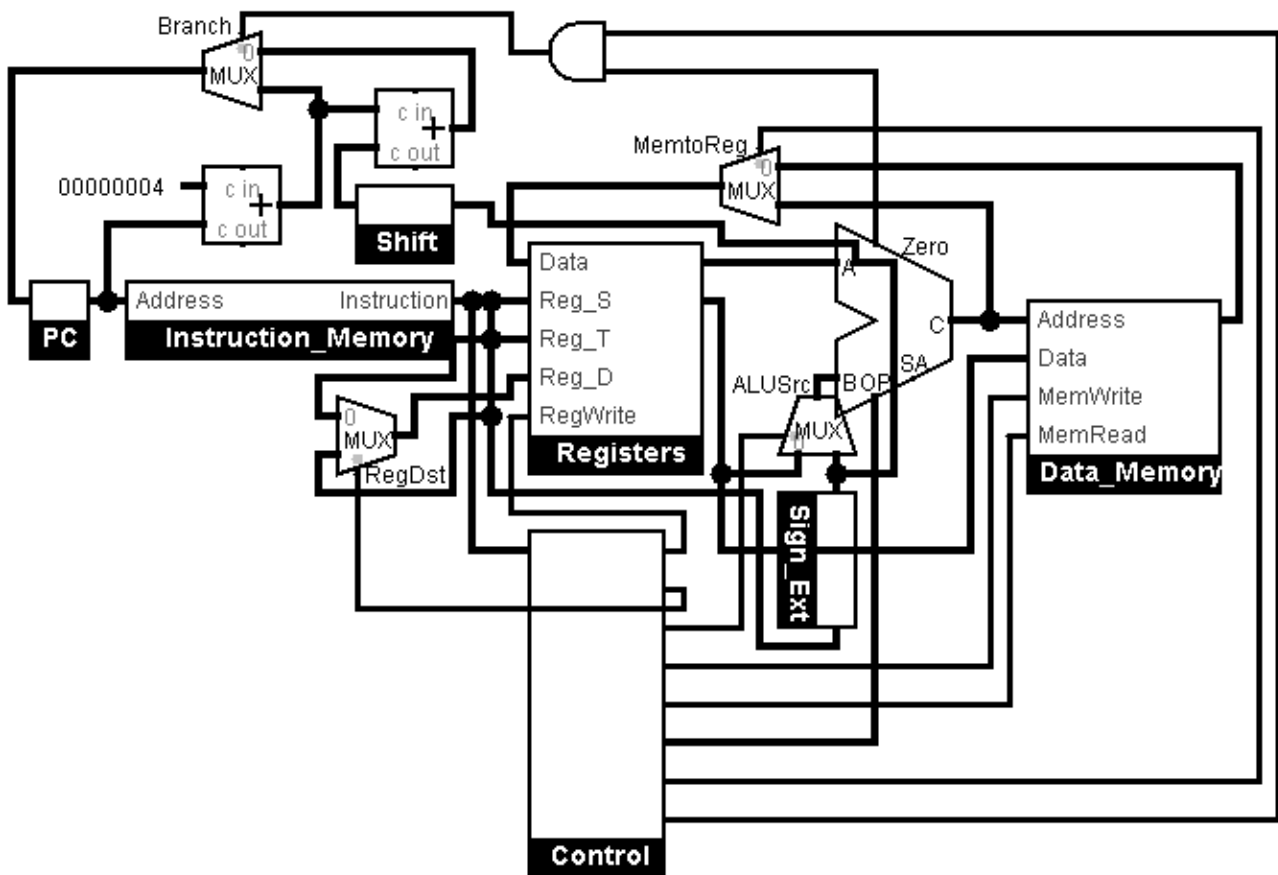

Figure 7: Processor Control and Datapath
- components of the processor design in Figure 7:
- the **datapath** as seen in Figure 7 is composed of the elements that process data and addresses in the CPU
- the datapath in Figure 7 performs an instruction in one clock cycle: